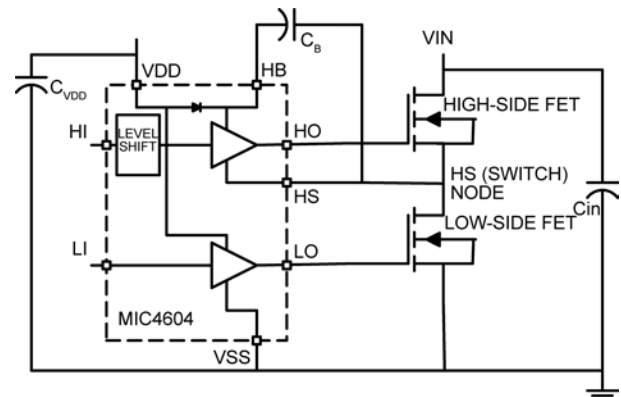

Figure 14. Synchronous Buck Converter Power Stage
- Trace out the high di/dt and dv/dt paths, as shown in Figure 14 and Figure 15, and minimize etch length and loop area for these connections. Minimizing these parameters decreases the parasitic inductance and the radiated EMI generated by fast rise and fall times.
A typical layout of a synchronous Buck converter power stage (Figure 14) is shown in Figure 15.